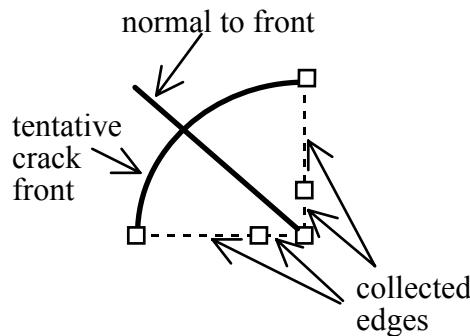

Figure 3.9. Four edges on the model surface and the tentative crack front.
Step 7: Collect the four small edges (Figure 3.9) that we just created and then select **FINISH**.